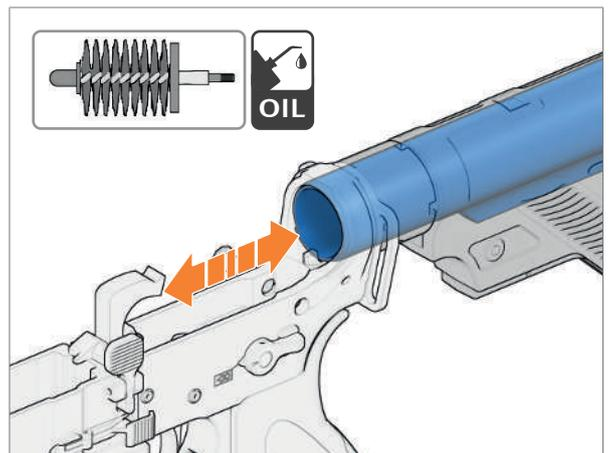

Fig. 104: Lubricate inside extension
3. Replace cleaning brush with oil brush for extension (*Fig. 104*).
4. Lubricate extension inside with oil brush (*Fig. 104*).